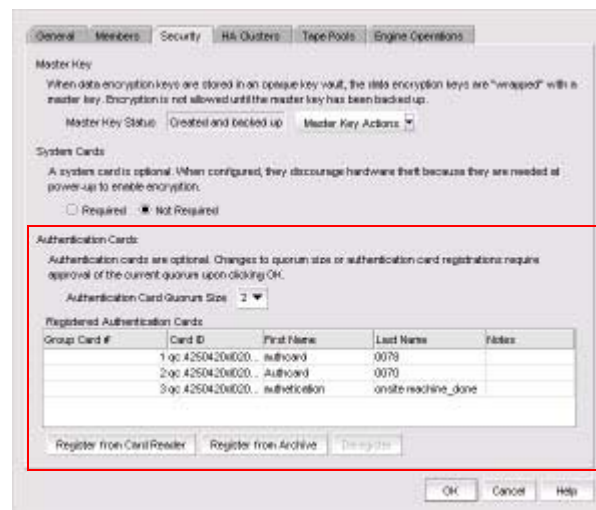

FIGURE 196 Security tab - registering authentication cards
2. Select an encryption group from the **Encryption Center Devices** table, then select **Group > Security** from the menu task bar to display the **Encryption Group Properties** dialog box. The **Security** tab is selected. (Refer to Figure 196.)